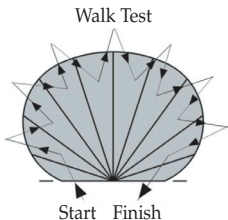

Fig. 9
3. Start from outside the pattern and walk across it until the lights come on. (See Fig. 9)